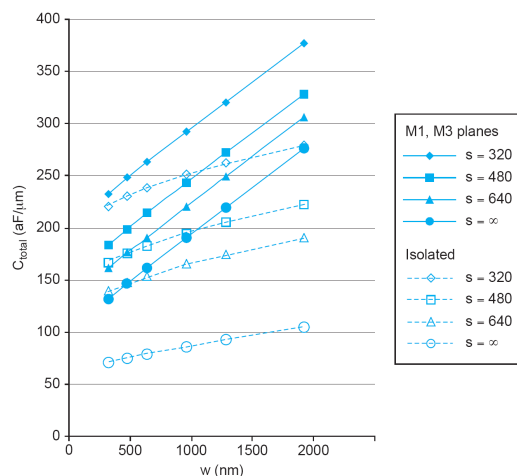

FIGURE 6.12 Capacitance of metal2 line as a function of width and spacing
- ▶ See, for example, Figure 6.12 in your text